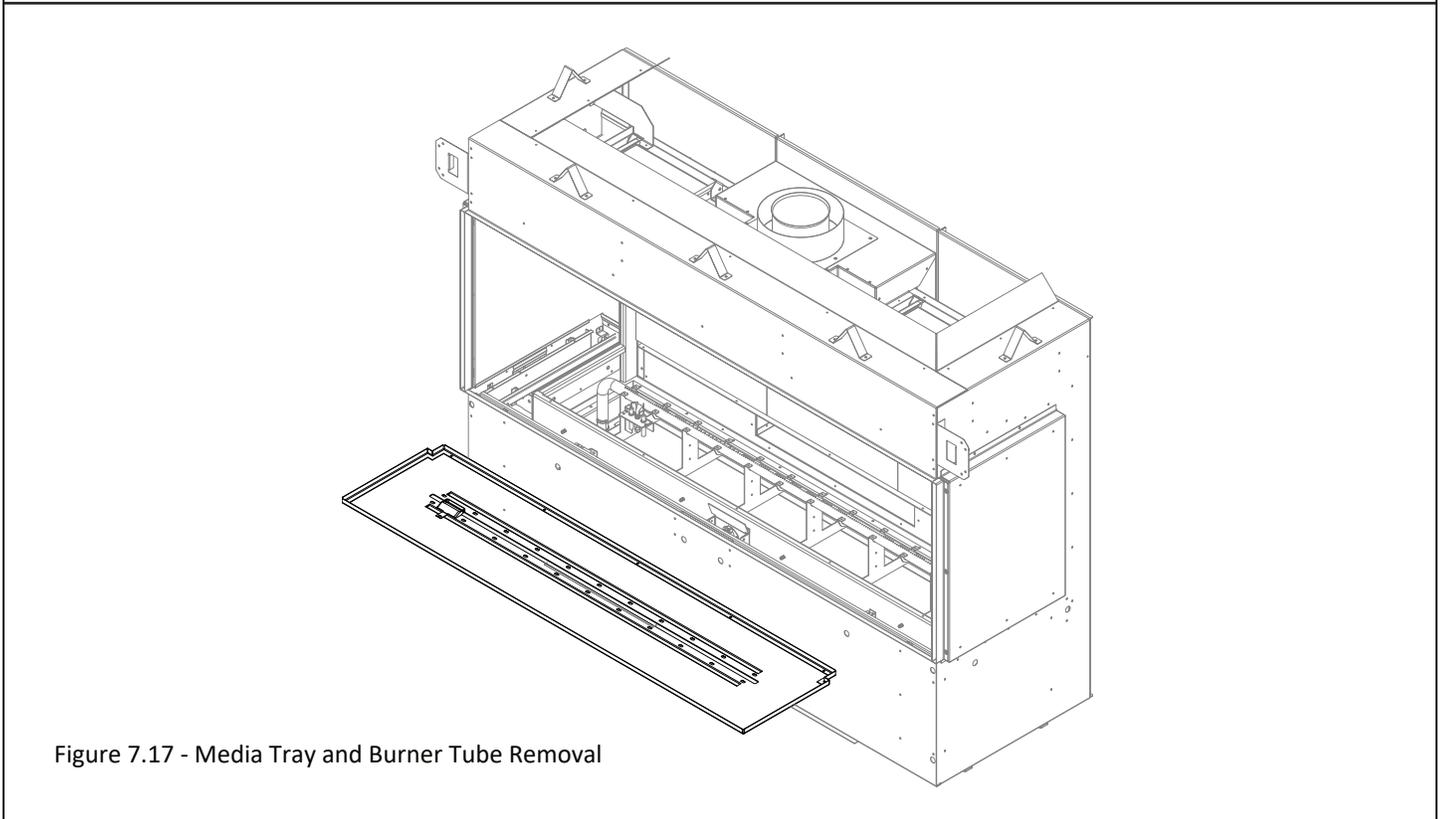

Figure 7.17 - Media Tray and Burner Tube Removal
4. Remove all the sheet metal screws around the perimeter of the media tray and all sheet metal screws along the center of the burner. Remove the firebox media tray and burner tube. Figure 7.17.